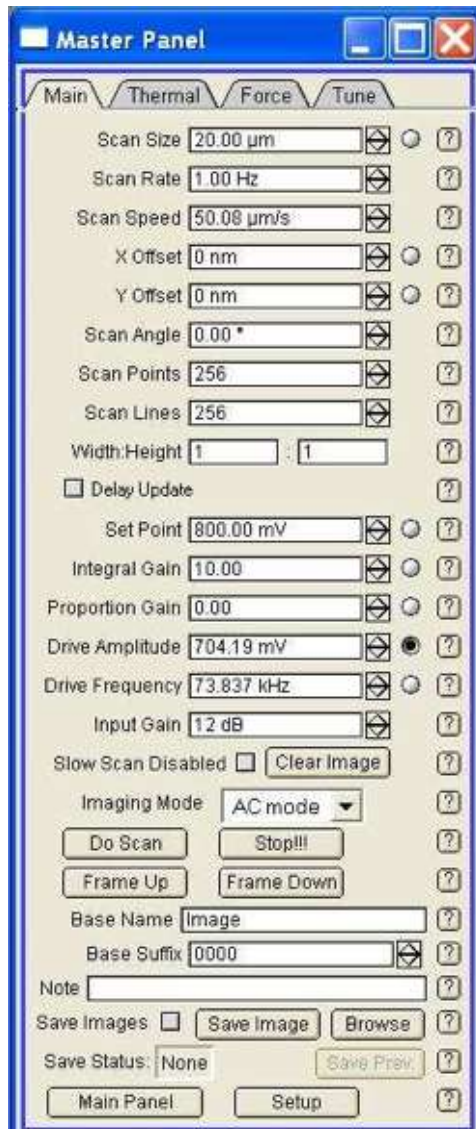

Figure 6.9 Master Panel, Main
Once your tip is on the sample surface and you have entered the desired primary scan parameters (Section 6.3, Set Primary Scan Parameters on page 128) begin imaging by clicking on the 'Do Scan' button (Figure 6.9 on page 136). You can
5. To save the pre-selected channels, give your files a 'Base Name.' (See Figure 6.9 on page 136) The software will automatically assign the Base Suffix, typically beginning with '0000.' Click on the 'Save Images' box and select a directory in which to save your files: When the current image is being saved 'Save Current' will appear next to the 'Save Status' parameter.